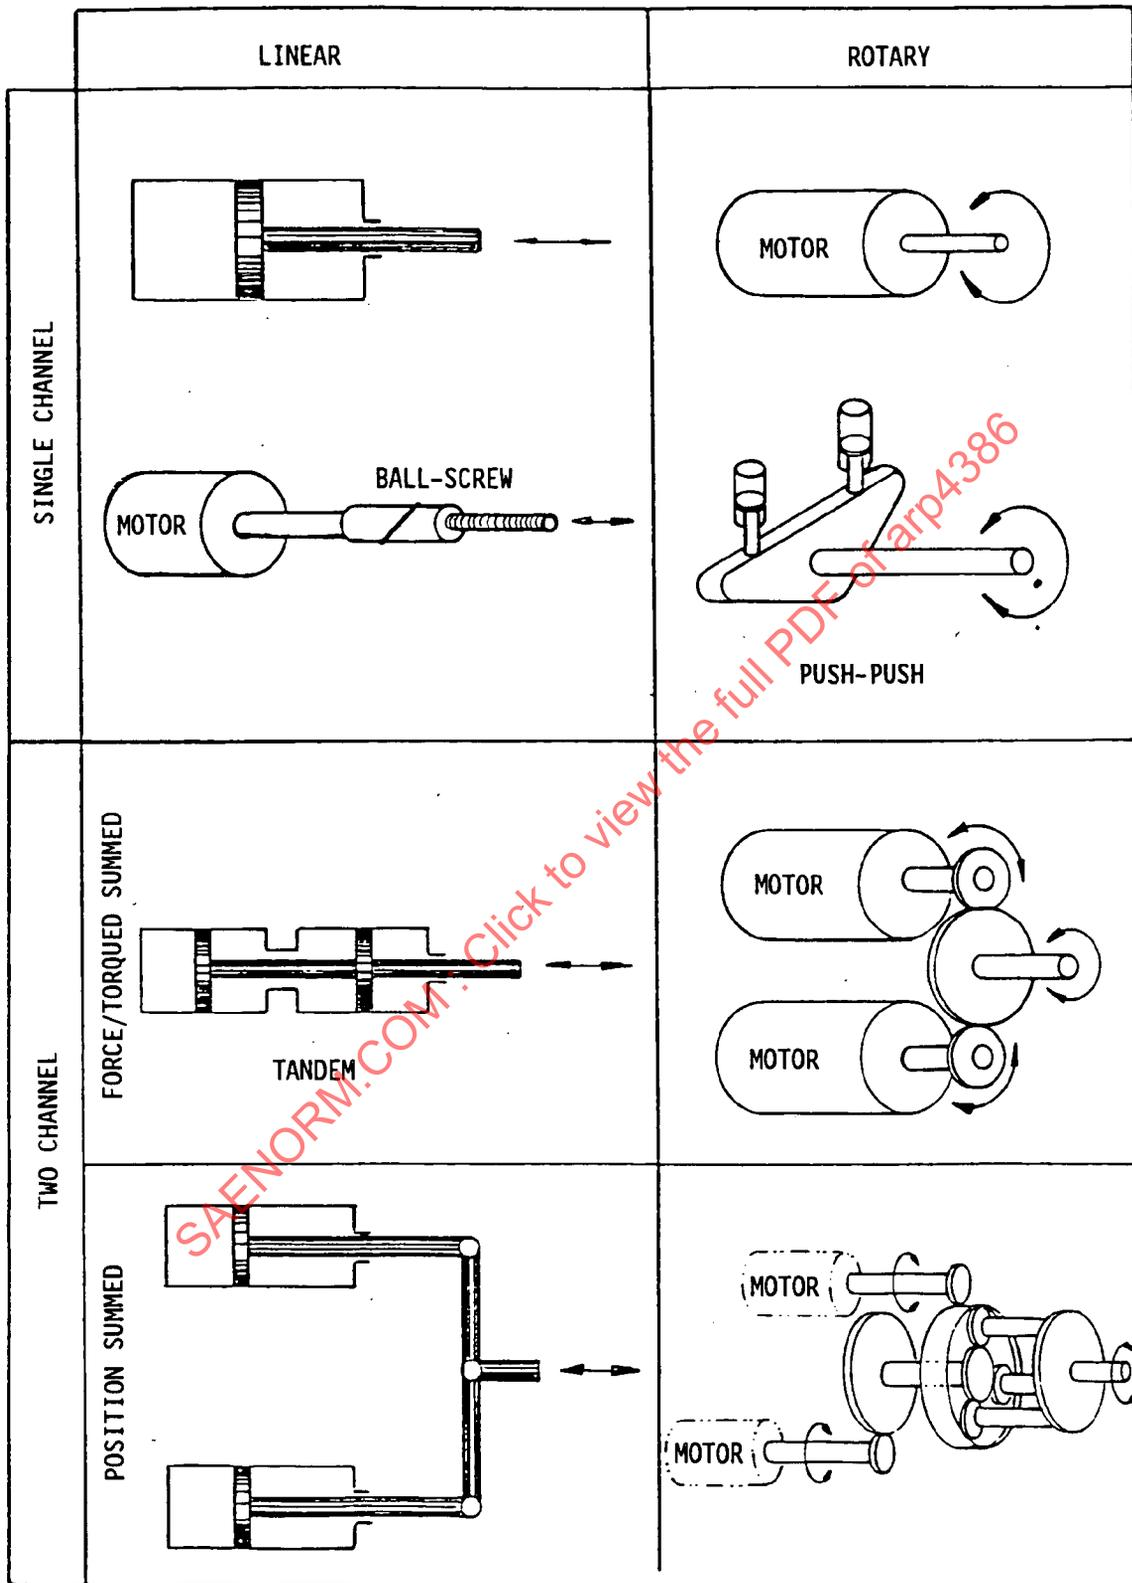
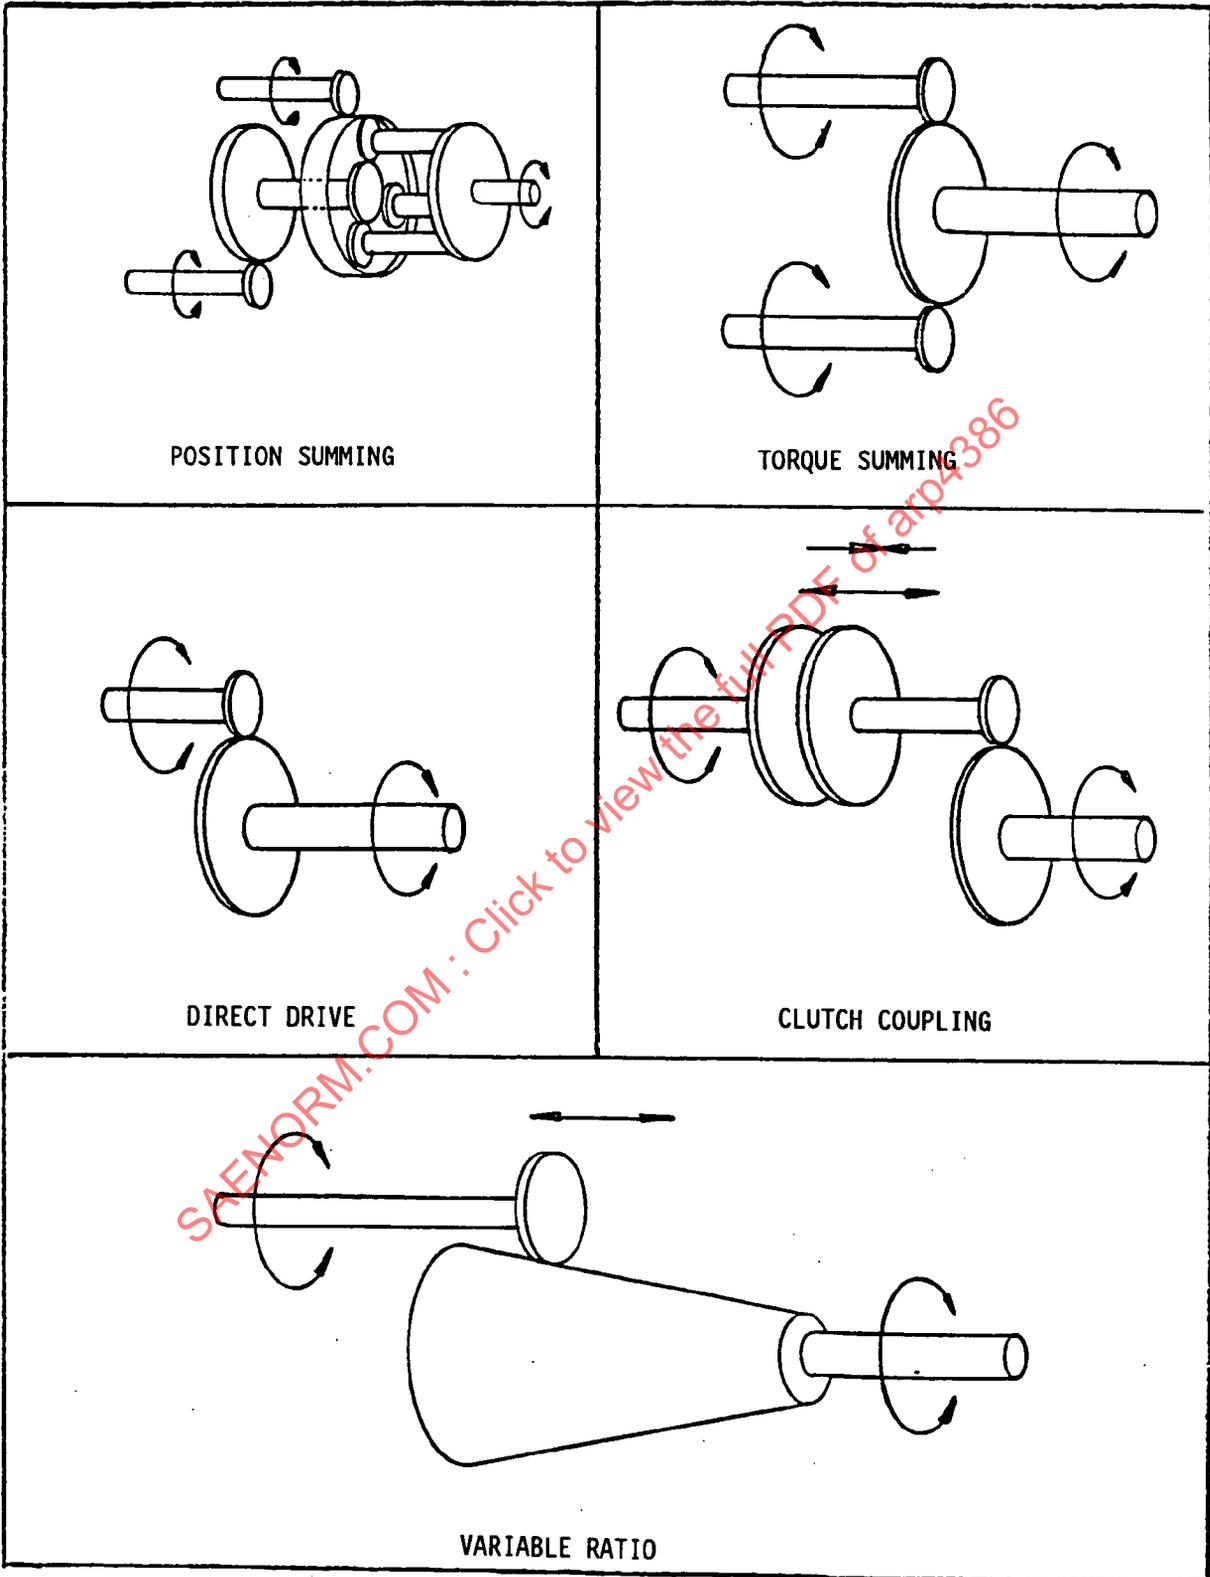

FIGURE 5 - Actuator Types
FIGURE 6 - Rotary Drive Classification
3.2.2.1 General Types: A single or two channel actuator may be designed for a linear or rotary output. See Figure 5. Rotary Drive Classifications are shown in Figure 6.